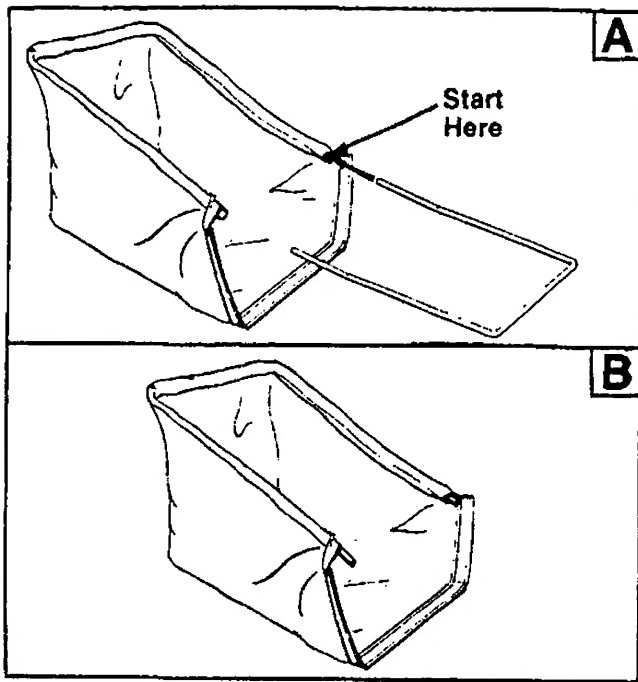

FIGURE 15.
1. Insert one end of the rear frame into the cloth channel on the edge of the grass catcher bag. Feed all the material on one side of the frame before working it around the frame. See figure 15.